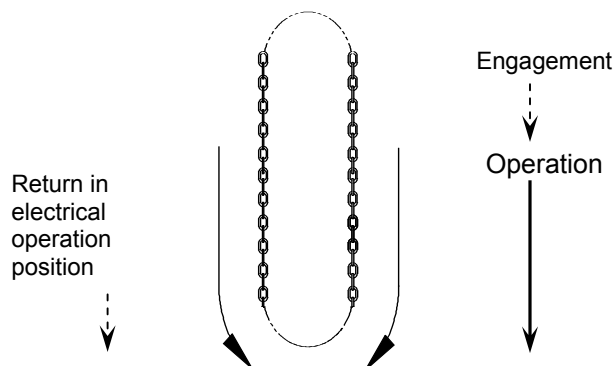

Figure 22 Operating chain to open and close door
2. Continue the traction movement to move the door. If it doesn't run in the desired direction, repeat actions 1 and 2 by pulling the chain in the other direction (See Figure 22).